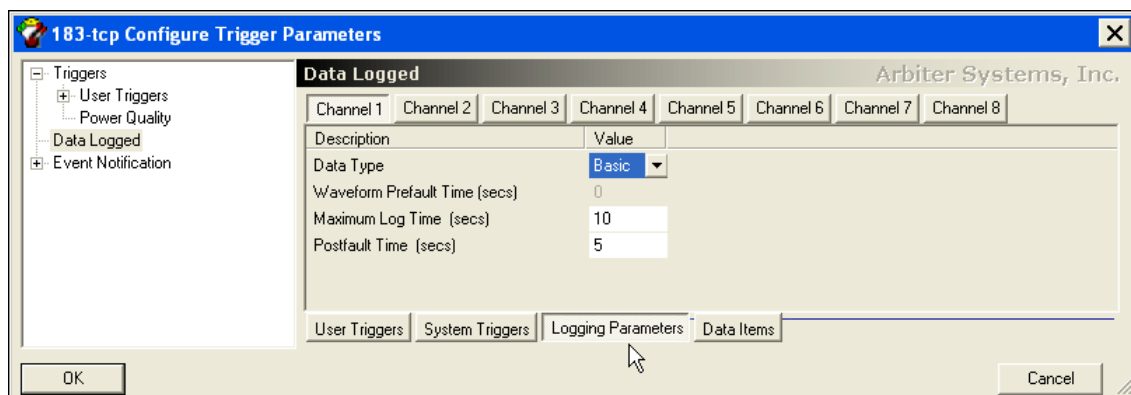

Figure 8.6: Configure Logging Parameters Screen
4. See Figure 8.6 to continue setting up the data to be logged when an external trigger occurs.
4. Click the Logging Parameters button to access the logging parameters for each channel. Select the Data Type – None, Basic, Harmonic, Harmonic Summary, Phasor and Waveform – according to requirement. See Figure 8.6